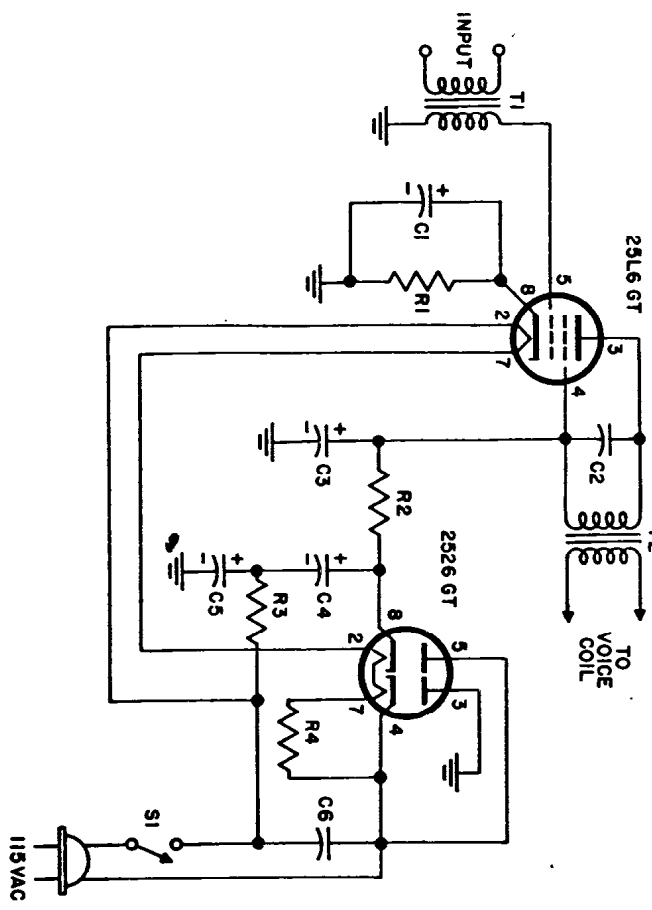

FIG. 3
The purpose of the low gain, one stage amplifier (Fig. 3), is to boost the output of a radio tuner or pre-amplifier to good room volume. Although this is a "transformerless" AC amplifier using a single power tube, about 4 watts output can be obtained due to the use of a voltage doubler rectifier circuit. Any type of permanent magnet (PM) speaker can be used to the amplifier, provided the output transformer is properly matched. Likewise, the input transformer will depend upon the type of input used. If a radio tuner output is connected to the primary of T1, a 3:1 ratio audio transformer may be used; if a magnetic phonograph pickup is required, the primary of T1 must match this pickup unit. Fair quality can be expected from this circuit. In constructing the amplifier, be certain T1 is located as far as possible from the output transformer to minimize inductive hum problem.